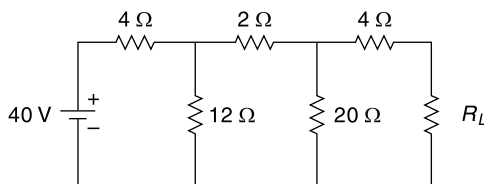

Fig. 4.71 Circuit of Ex. 4.47
4.47 By using source conversion technique find the value of voltage across R_L where $R_L = 4 \Omega$ in Fig. 4.71.